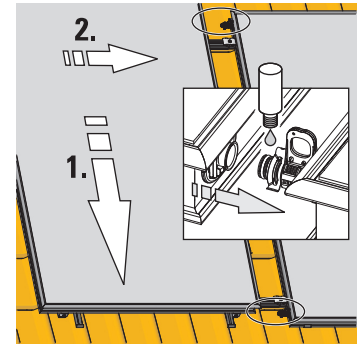

Fig. 3-25 Positioning the next flat solar panel
6. Lift the next flat solar panel onto the mounting rails (see Section 3.4.4, step 2), and lower into the securing clips at a distance from the expansion joints (Fig 3-25).